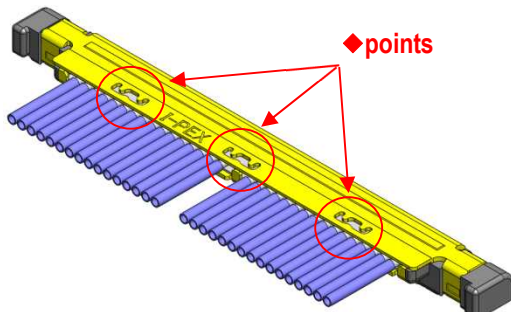

Fig. 7 Soldering of METAL COVER and Ground Bar
- ③ Soldering holes of METAL COVER 3 positions and Ground Bar with the soldering iron at all designated points is recommended. (Fig. 7 ◆ points)